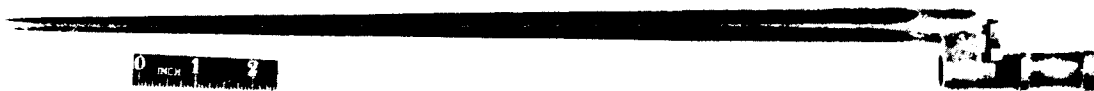

FIGURE 19. BAYONET FOR RIFLE M1891/30.
d. The bayonet (fig. 19) is fastened to the rifle by means of a spring-loaded catch, but is otherwise similar to the bayonet of the rifle M1891.